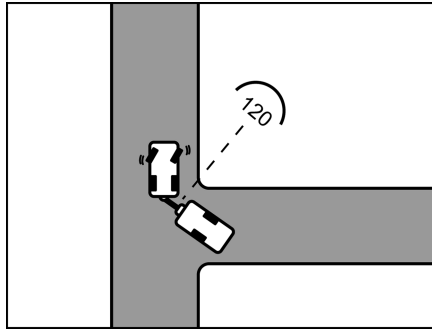

Fig. 12 Approach
- As soon as both vehicles are at an approximate angle of 120° to each other, come to a stop (Fig. 12).